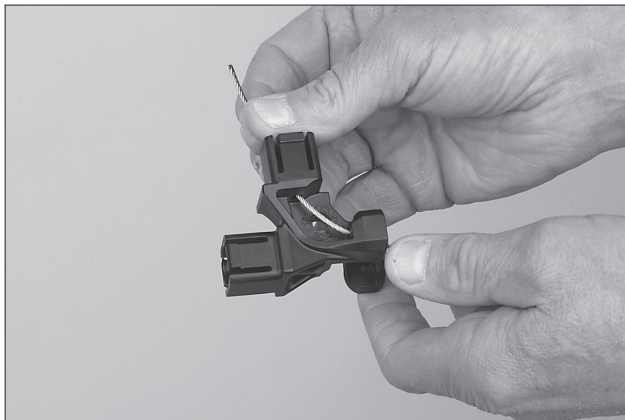

FIGURE 5-73
4. Pull the wire rope out of the large end of the block. See Figure 5-73.